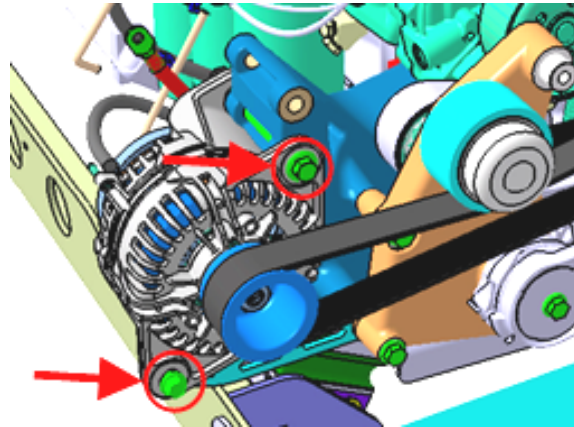

FIGURE 43
3. Remove the alternator. To do so, unscrew the two (2) mounting bolts identified on **FIGURE 43**.